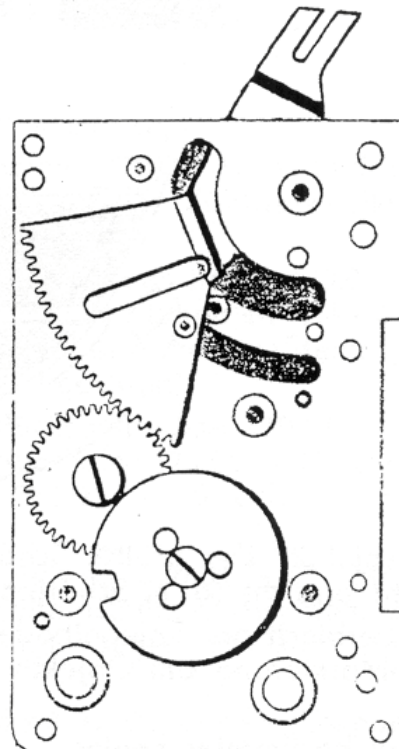

Fig. 3
- d) Mark the mesh of the old cocking lever with the intermediate wheel 370.07-19 and the wheel to the cam-disc 370.07 U6 (see Fig 3).